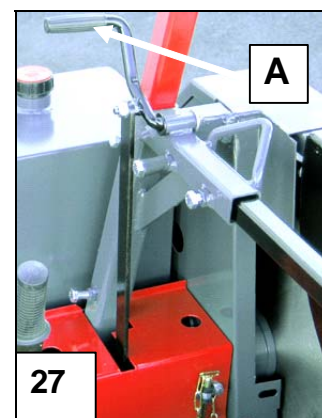

Fig. 27. Tightening and slackening of the V-belts
1. Slacken the V-belts using the emergency switch (Figure 27).